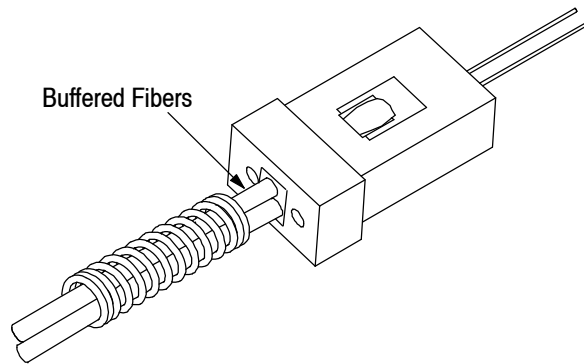

Figure 20
4. Carefully place the buffered fibers into the ferrule opening. The buffer must not be visible through the ferrule window. See Figure 20.